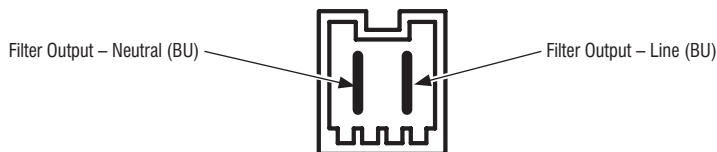

Figure 2 - Interference Filter (IF)
3. Visually check that all connections to the interference filter (IF) are securely connected. See Figure 2, below.
7. With a voltmeter set to **AC**, check for line voltage at the input of the interference filter. See Figure 2.
8. With a voltmeter set to **AC**, check for line voltage at the output of the interference filter. See Figure 2.